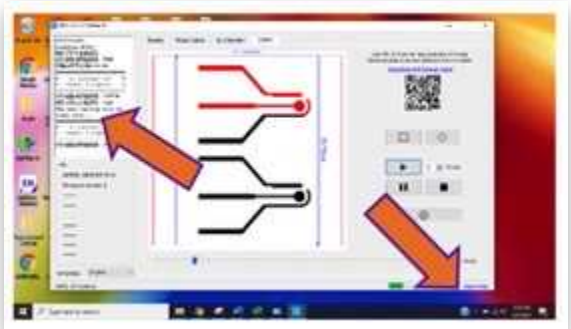

Figure 4B
- b. The time left to complete each burn is displayed in the bottom, right area of the screen. The software also shows if the first or second carving is in process displayed on the top, left area (shown in *figure 4B*).